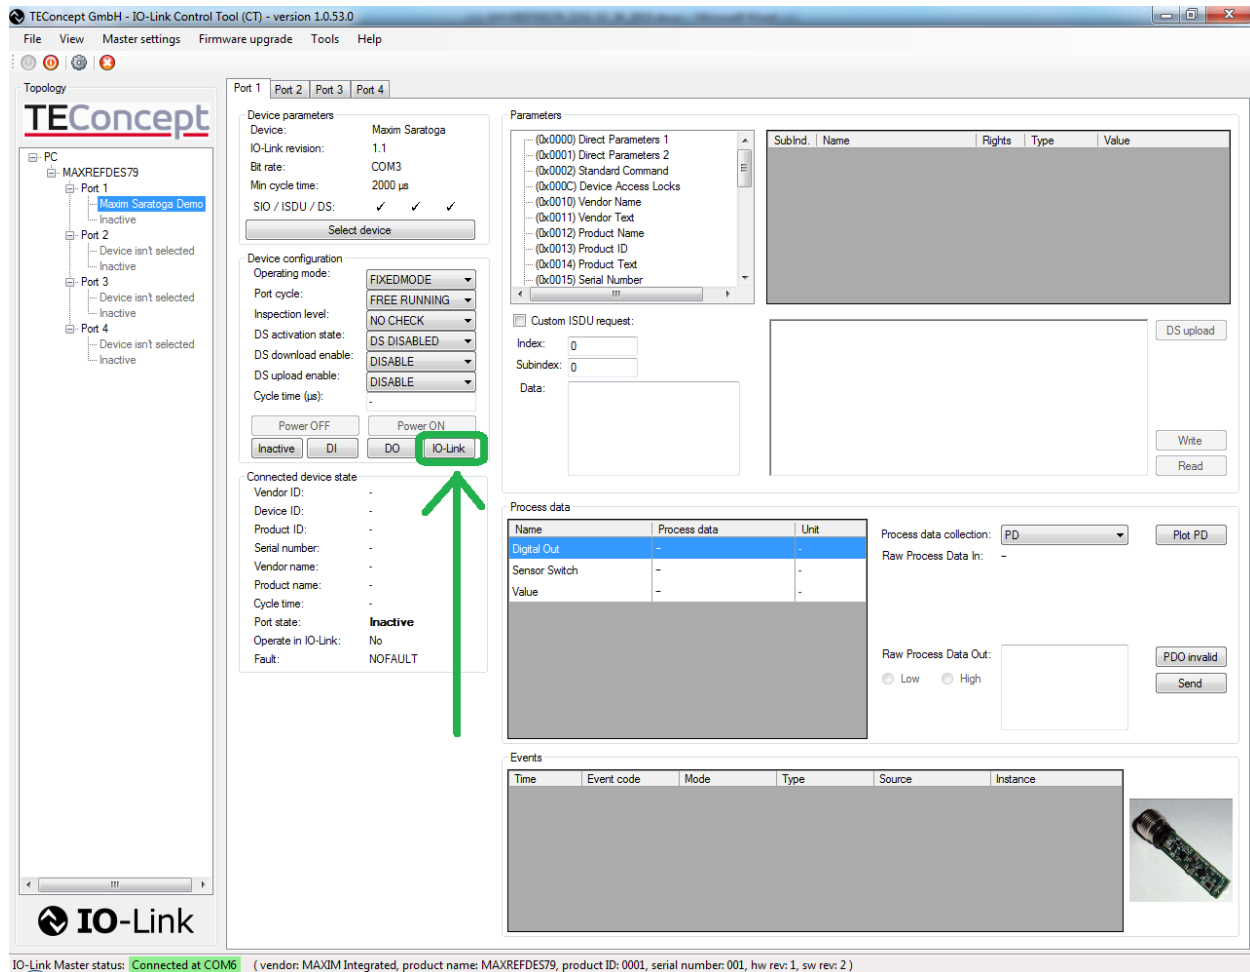

Figure 10. IO-Link button becomes active once an IODD is assigned to a port and the MAXREFDES79# is connected to the PC.
11. The **IO-Link** button becomes active once the IODD file is assigned to a port and the MAXREFDES79# is connected to the PC. Press the **IO-Link** button once it becomes active as shown in Figure 10.